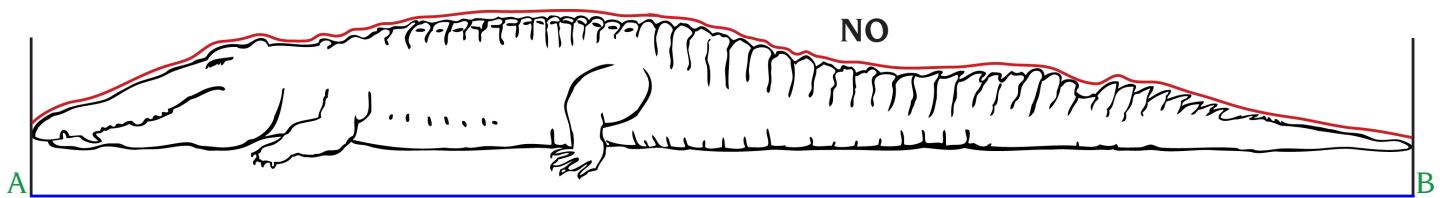

Figure 1
1. Length. Lay the crocodile on a flat piece of terrain. This is important in order to get a proper measurement. Pull the nose and tail of the reptile into a straight line, and then drive in pegs at each end. Make sure the pegs are at a 90-degree angle to the ground. Remove the crocodile. Take the measurements between pegs. Do not measure over the contours of the body of the animal. See red line in Figure 1.